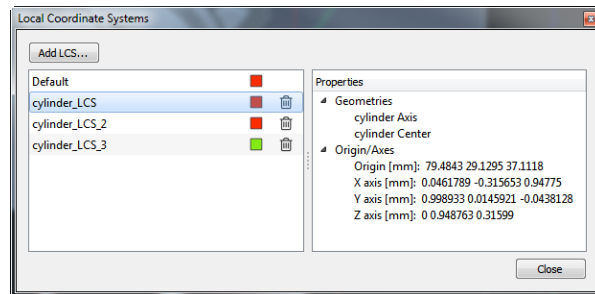

Figure 14.19: The LCS Manager
- An access to the LCS Manager (*Manage LCS...*) which allows all LCS related actions (creation, deletion, renaming, display of the LCS characteristics). See Figure 14.19.